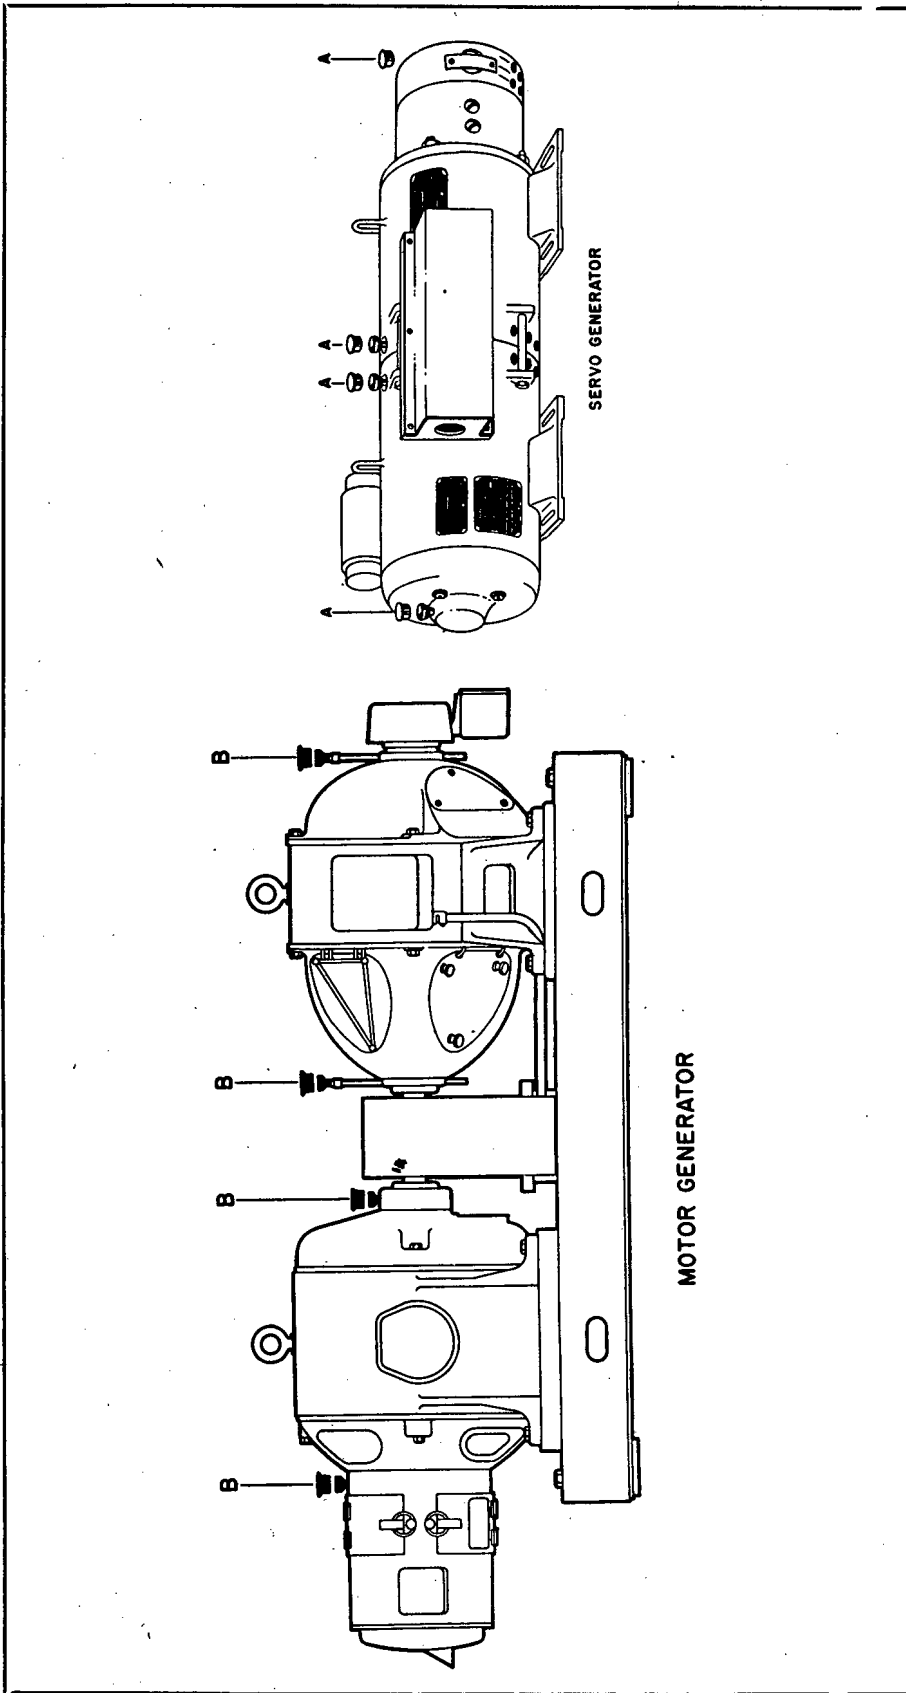

Figure 6-12. Lubrication of Servo Generator and Motor Generator
(1) The Servo Generator should be lubricated once every three months. The lubrication chart is shown in Fig. 6-12. Some of the early Servo Generators are equipped with sleeve bearings equipped with oil cups. This type of bearing should be lubricated with a lubricant such as Federal Standard Stock Catalog No. 14-0-2715, Navy Symbol 4065 or some other good machine oil suitable for bearings. Most of the Servo Generators are equipped with ball bearings and grease cups. They are lubricated as directed in Fig. 6-12.
(1) The Motor Generator is equipped with ball bearings and with grease cups for lubrication. The lubrication points are shown in Fig. 6-12.